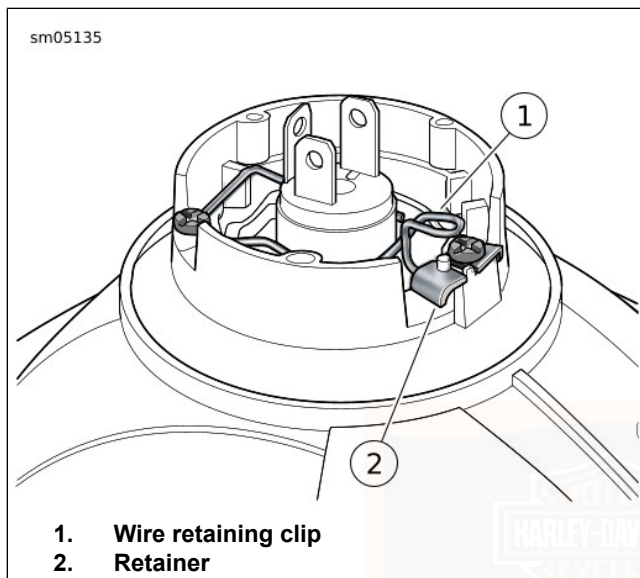

Figure 61. Wire Retaining Clip
3. See Figure 61. Release wire retaining clip (1) from retainer (2). Swing wireform out of the way.
6. See Figure 61. Rotate wire retaining clip (1) into place and latch under lip of retainer (2).